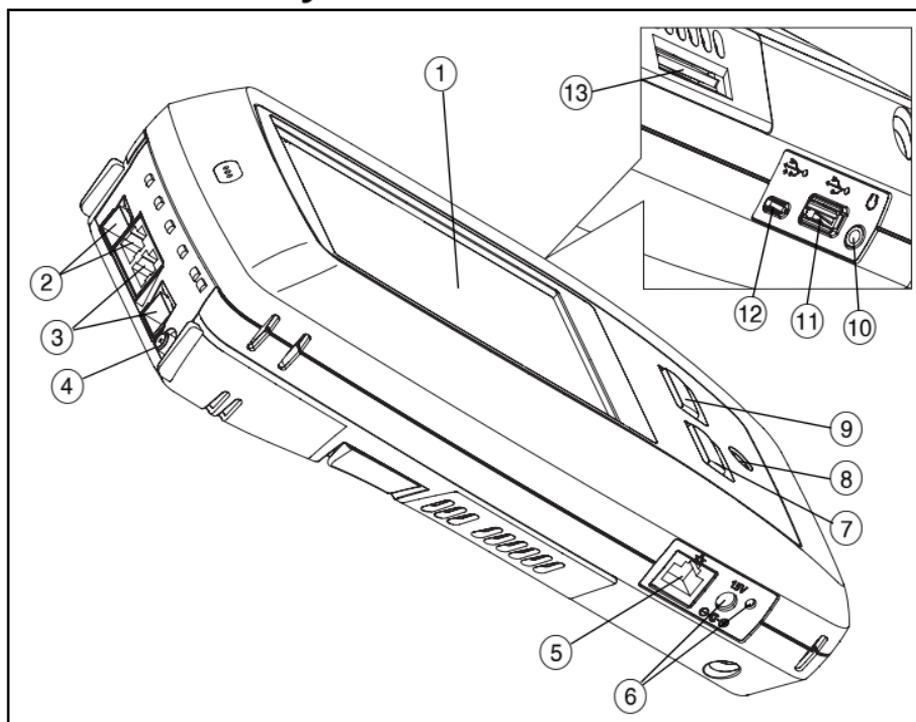

Figure 1. Connectors, Keys, and LEDs
Connect the network under test to Port A (Item ③ in Figure 1). You can use the RJ-45 Ethernet jack for copper cable, or an SFP inserted in the SFP receptacle for fiber cable.